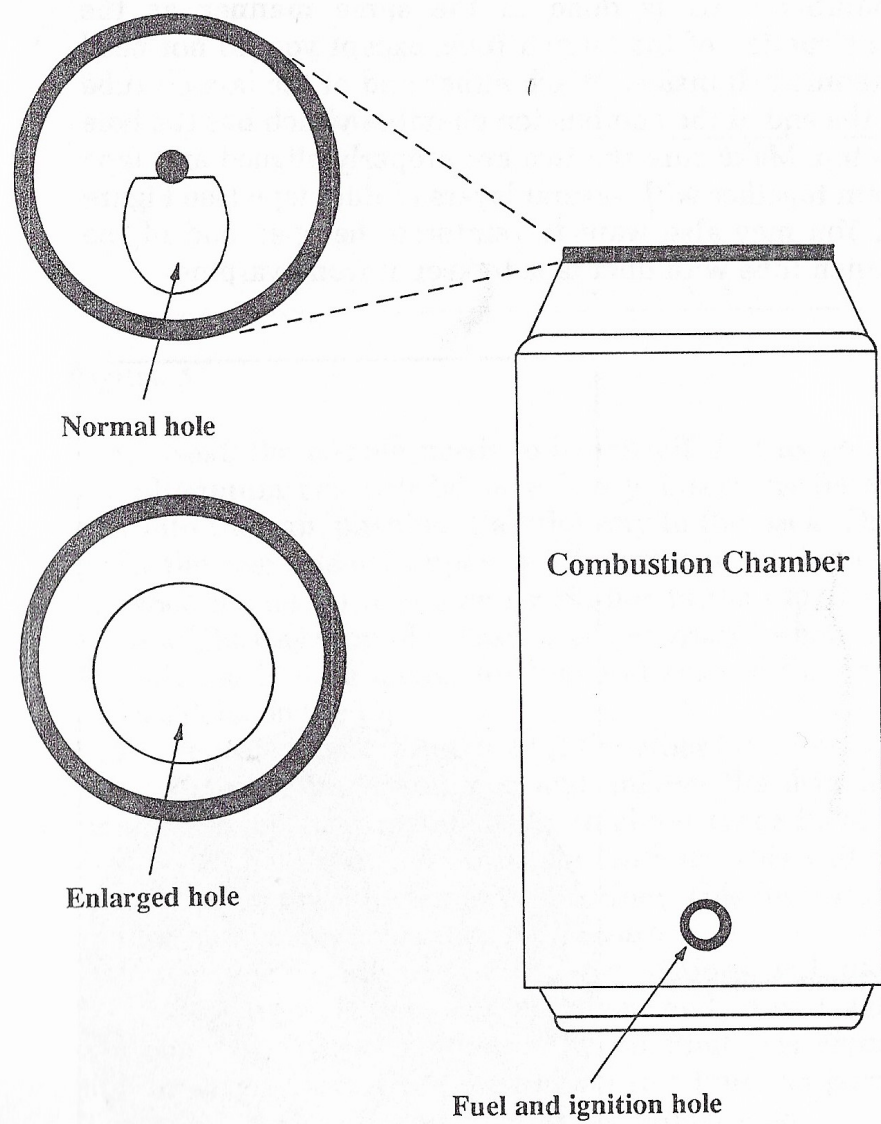

Figure 5
6. Take the remaining can and enlarge the drinking hole in its top with metal shears to about twice its size. Drill a  $\frac{1}{8}$ " hole about  $\frac{1}{2}$ " from the bottom. This will be where the fuel will be put in and ignited. This fourth can is your combustion chamber. (See Figure 5.)